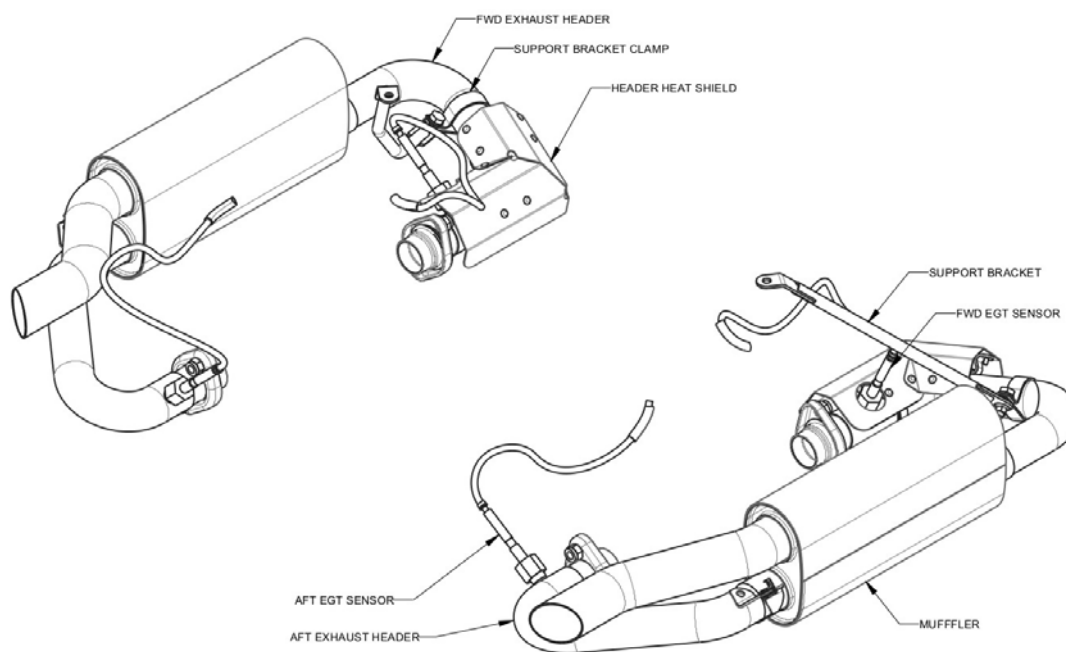

FIGURE 16-30
2. Remove AFT EGT sensors with a 17mm wrench. (See Figure 16-30.)